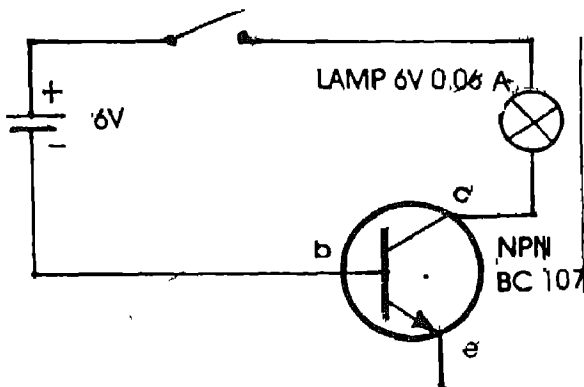

Fig. 6.4
2. Now take a 6V battery and connect the negative side to the base of the transistor and positive terminal to the collector of the transistor as shown in Fig. 6.4. The emitter is left open